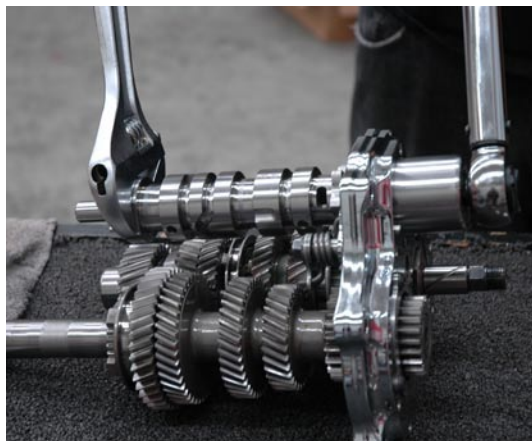

FIGURE 14
2. Pull the Detent Lever out of the way of the drum (see Service Manual) and slide the drum through from the inside of the bearing door through the bearing that is already pressed into the door. It is a tight slip fit so it may take a little wiggling to get the drum to seat against the drum bearing inner race. When the Shift Drum is all the way in, you can let go of the detent lever. Following Figure 14, and using the provided BAKER Shift Drum socket, grab on the other end of the drum with an adjustable wrench and tighten the drum nut onto the Shift Drum. The shift drum nut is directional, install with the round snout pointing inward to land on the inner race of the shift drum bearing. Tighten the drum nut to 25 ft/lbs using 'Red' Thread Lock.